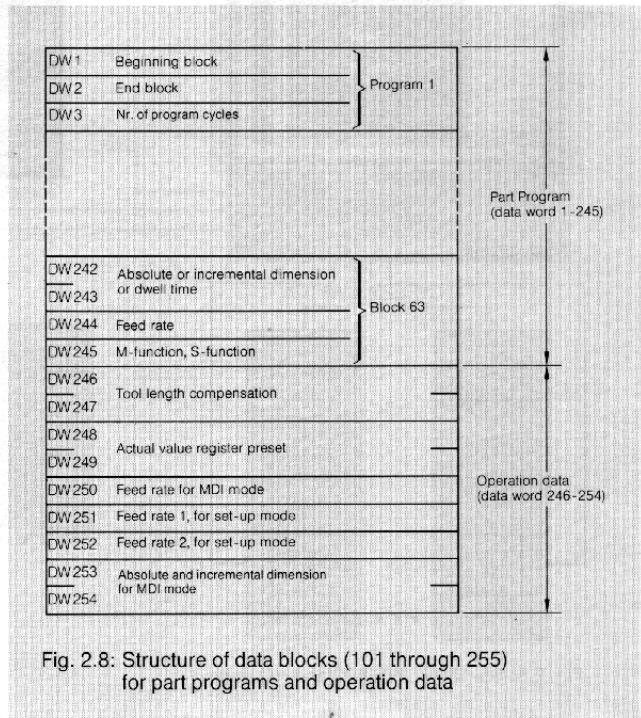

Fig. 2.8: Structure of data blocks (101 through 255) for part programs and operation data
- Storage of part programs and operation data in the RAM memory of the PC (data blocks 101 to 255; (Fig. 2.8).